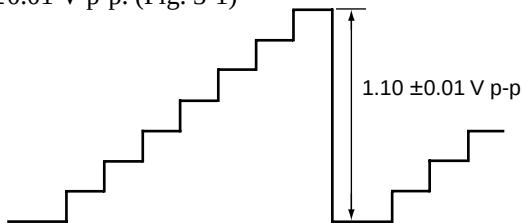

Fig. 3-1
2. Observe the TP503 (B IN) using an oscilloscope, and adjust the RGB A.GAIN level using a remote commander so that the signal level will be $1.10 \text{ V} \pm 0.01 \text{ V p-p}$. (Fig. 3-1)
3. Observe the TP501 (R IN) using an oscilloscope, and adjust the RED A.GAIN level with a Remote commander so that the signal level will be $1.10 \text{ V} \pm 0.01 \text{ V p-p}$. (Fig. 3-1)
4. Observe the TP502 (G IN) using an oscilloscope, and adjust the GREEN A.GAIN level using a remote commander so that the signal level will be $1.10 \text{ V} \pm 0.01 \text{ V p-p}$. (Fig. 3-1)
6. Observe the TP503 (B IN) using an oscilloscope, and adjust the RGB A.GAIN level using a remote commander so that the signal level will be $1.10 \text{ V} \pm 0.01 \text{ V p-p}$. (Fig. 3-1)